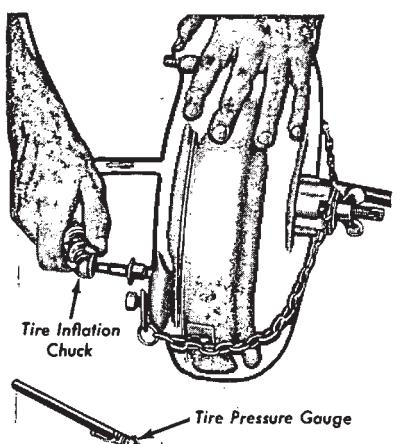

FIG. 3—Converter Leak Tool Installation
1. Install the plug in the converter (Fig. 3) and expand it by tightening the wing nut. Attach the safety chains.